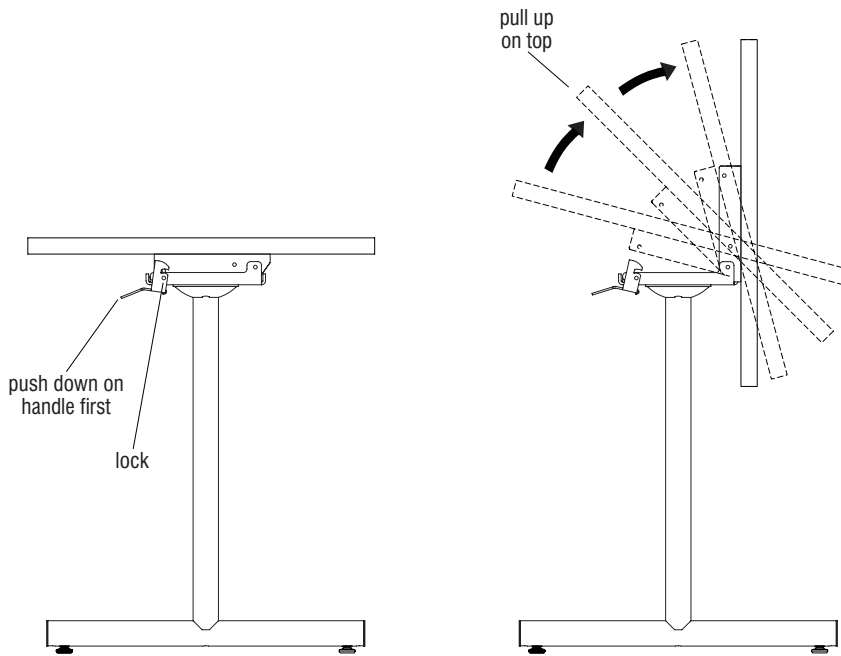

Figure 10
**Note:** refer to page 7, Figures 10 & 11 for more information on flip-top table operating instructions.
1. To rotate into storage position push down on the handle and lift top up until it stops (Figure 10).